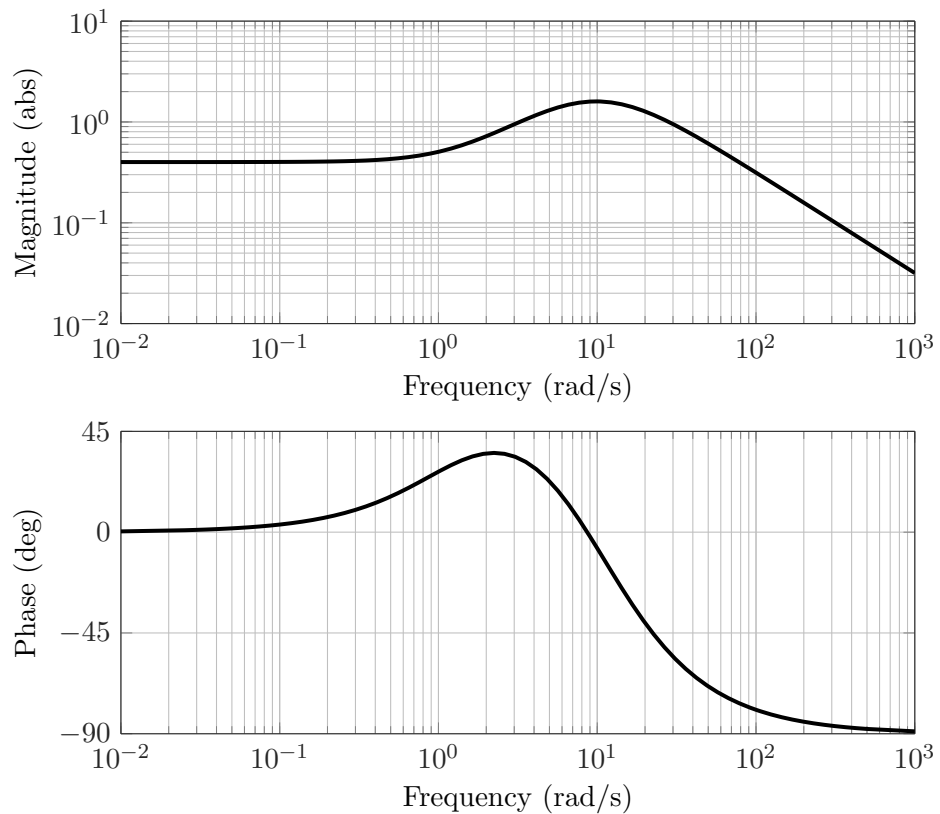

Figure 6 Bode plot for the process in Problem 6
6. An asymptotically stable process has the Bode plot shown in Figure 6.